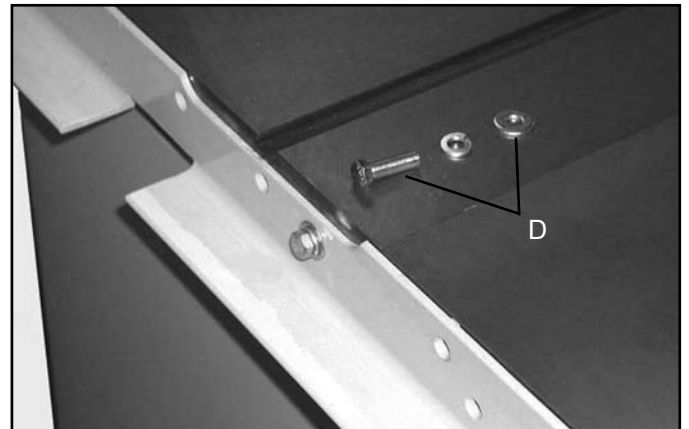

FIG. 8
FOR DELTA UNISAW: Thread the two 3/8-24 x 1-1/4" long hex head screw, lock washer and flat washer (D), supplied, Fig. 8, through the two holes in the rail and into the two threaded holes in the saw table.